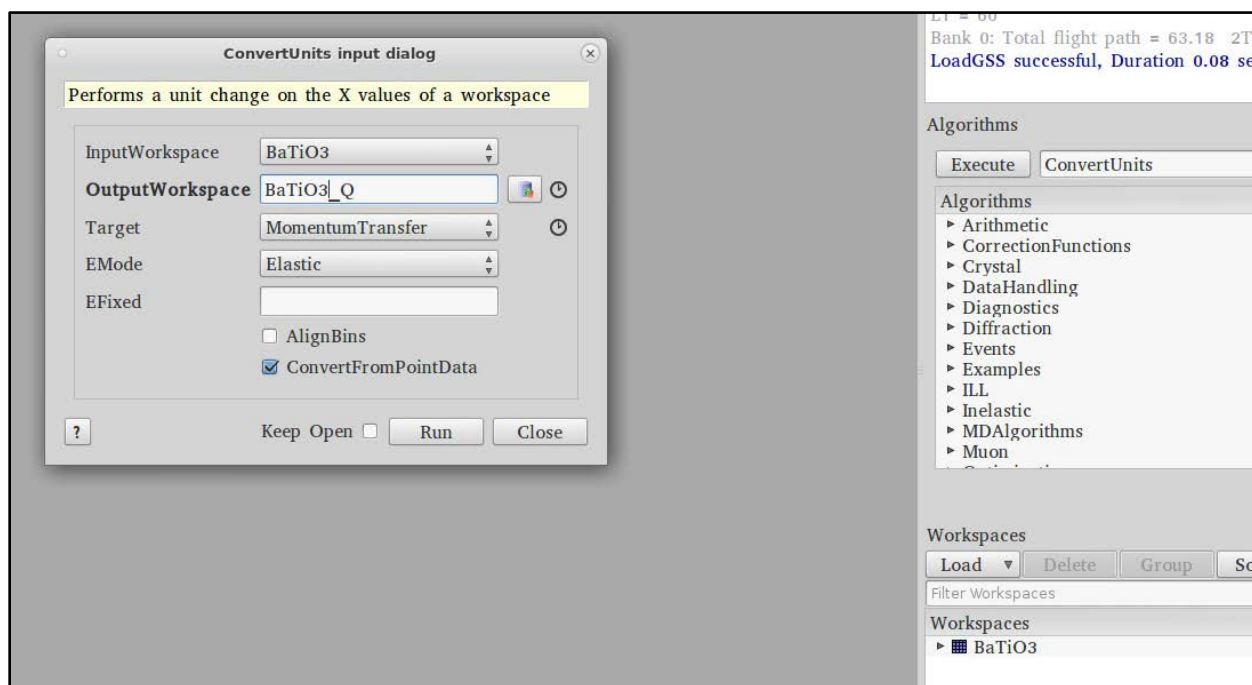

Figure 7. ConvertUnits dialog box.
2. Execute the “ConvertUnits” algorithm (Figure 7). The InputWorkspace will be what you just loaded in step 1 above. If the OutputWorkspace is set to the same as the InputWorkspace, that workspace will be overwritten. If that is not desired, change the OutputWorkspace to something different. The Target should be **MomentumTransfer** and the EMode should be **Elastic**.